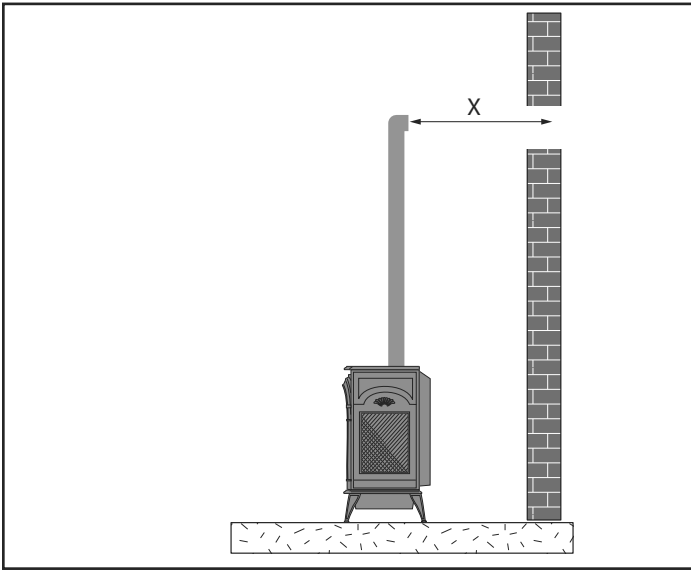

Figure 3.19 - Horizontal Length Requirement
5. Measure the horizontal length requirement including a 2" (51 mm) overlap, i.e. from the elbow to the outside wall face plus 2" (51 mm) (or the distance required if installing a second 90° elbow). Figure 3.19